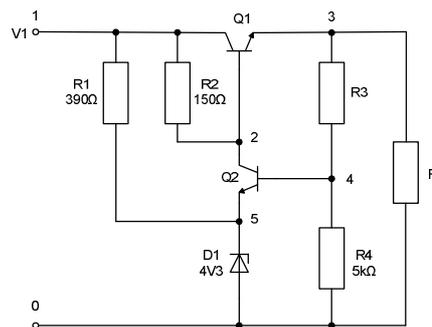

Fig.21.2
- Set up $R2 = 20 \Omega$ in model, disable DC analysis by putting the symbol "*" at the beginning of the line „**DC V1 1 15 .2**”. and enable DC analysis by deleting symbol "*" at the beginning of the line „**DC RES MFR(R) 1 5 .1**”. This analysis (DC sweep) allows the observation of changes of DC components in current and voltage in function of change of resistance $R2$, form nominal value up to five times greater. In this case axis X is scaled in multiplier of the initial value of resistance $R2$. Make the simulation and observe the waveforms: $V2$, $I(D1)$, $I(D1)*V(2)$, $I(R1)*V(1,2)$. Analyse obtained results of the simulation.
- Set up $R2 = 50 \Omega$ in model, disable DC analysis by putting the symbol "*" at the beginning of the line „**DC RES MFR(R) 1 5 .1**”. and enable DC analysis by deleting symbol "*" at the beginning of the line „**DC V1 1 15 .2**”. This analysis allows the observation of changes of DC components in current and voltage in function of input voltage from 1 V up to 15 V with step 0.2V. Make the simulation and observe the waveforms: $V2$, $I(D1)$, $I(R1)*V(1,2)$. Analyse obtained results of the simulation.
21.3.2. Simulation study of shunt DC voltage stabilizer with amplifier of control error realized by using a single-stage amplifier with bipolar transistor (file STAB2.CIR). Zener diode breakdown voltage $U_{Z0D1} = 4.3 \text{ V}$. The supply voltage $V1$: DC component is 18 V, the amplitude of sine wave of AC component is 1 V and frequency is 50 Hz. Diagram is shown in Figure 21.2.
- Select both transistors $Q1$, $Q2$ from group B, enable DC analysis by deleting symbol "*" at the beginning of the line „***.DC RES MFR(R) 1 5 .1**”, set up resistance $R3 = 20 \Omega$. Analyse change of resistance effect on the DC and AC component in voltage $V3$ and power loss in transistor $Q1$.